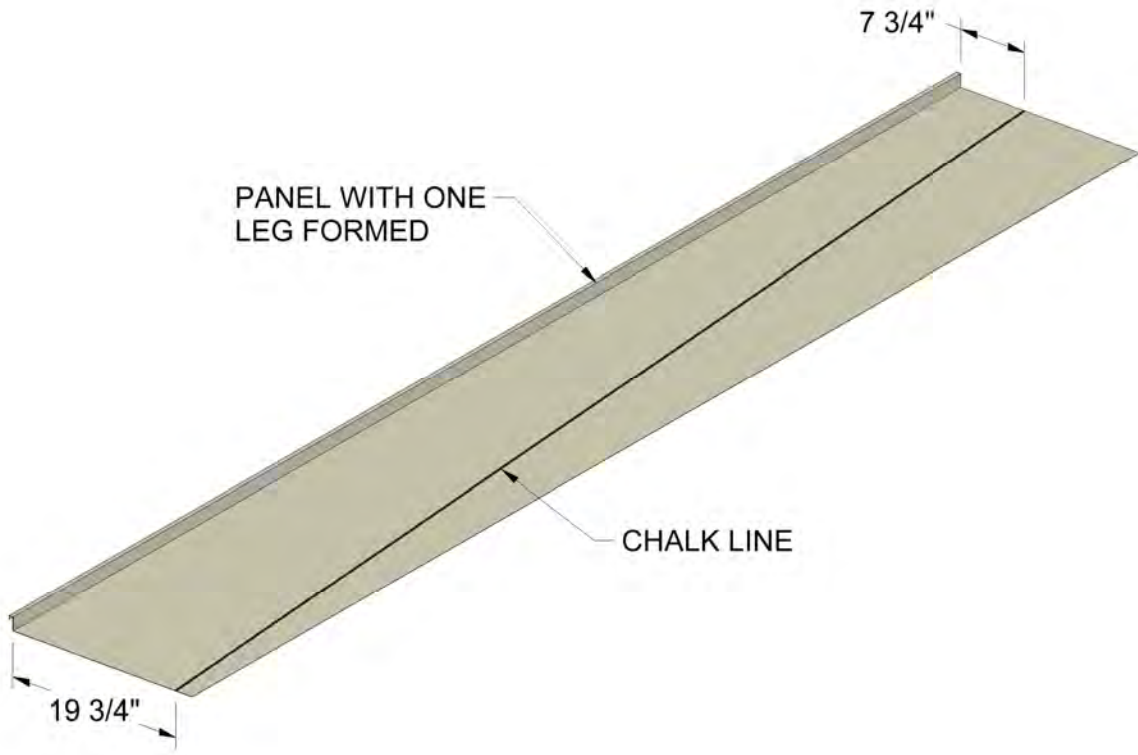

Fig. 6-2. Panel Marking Example.
For example: Let's say you're making a tapered roof panel in the SS150 profile, and the finished width (Dimension A in **Fig. 6-1**) needs to be 6" at the narrow end and 18" at the wide end. The female side has already been formed. In this example, the width that it needs to be cut at would be 7 3/4" at the narrow end (6" finished width + 1 3/4" material usage to form the male leg) and 19 3/4" at the wide end (18" finished width + 1 3/4" material usage). See **Fig. 6-2**.
C. Mark the panel at the dimensions found in step B and snap a chalk line between them, see **Fig. 6-2**.